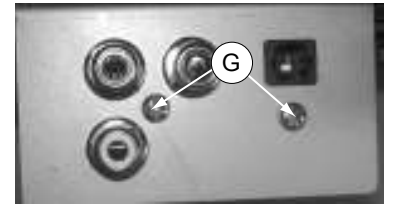

Figure 7
- 2) Loosen 2 screws "G" at the main bracket to remove Main Board as shown if figure 7.